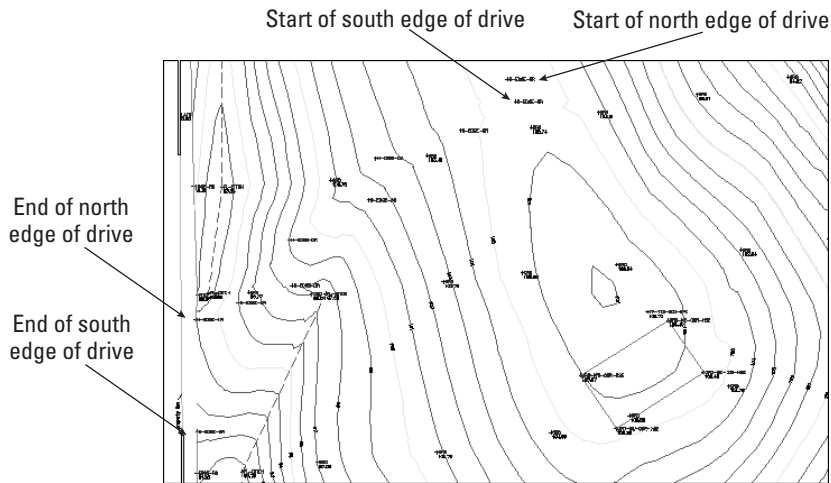

Figure 16-7: A topographical site map. You can complete the gravel road based on surveyor's data.
2. Save the file as `ab16-03.dwg` in your `AutoCAD Bible` folder. This is a topographical site map, shown in Figure 16-7. OSNAP should be on. Set a running object snap for insertion.
4. At the `Specify first point` or `[Object]:` prompt, use the Insert object snap to pick the cross at the start of the north edge of the drive, as shown in Figure 16-7. Continue to pick the crosses marked `N-EDGE-DR`. Choose Pan from the Standard toolbar to do a real-time pan when you reach the edge of the display. Press Esc. Continue picking points until you get to the end of the north edge of the drive, as shown in Figure 16-7. Press Enter to end point selection.
6. Start the SPLINE command again and pick points for the south edge of the drive, from the start of the south edge of the drive to the end, as shown in Figure 16-7. Pan as necessary. Again, press Enter to accept the default directions for the start and end tangents.